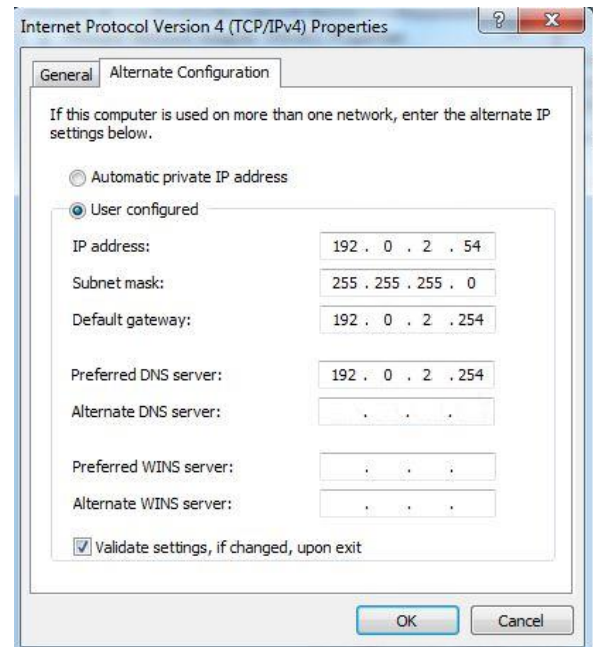

Figure 1
1. Select **User configured** and enter an **IP address** (e.g.:192.0.2.54). The **Subnet mask** should be 255.255.255.0 as shown in *Figure 1*.